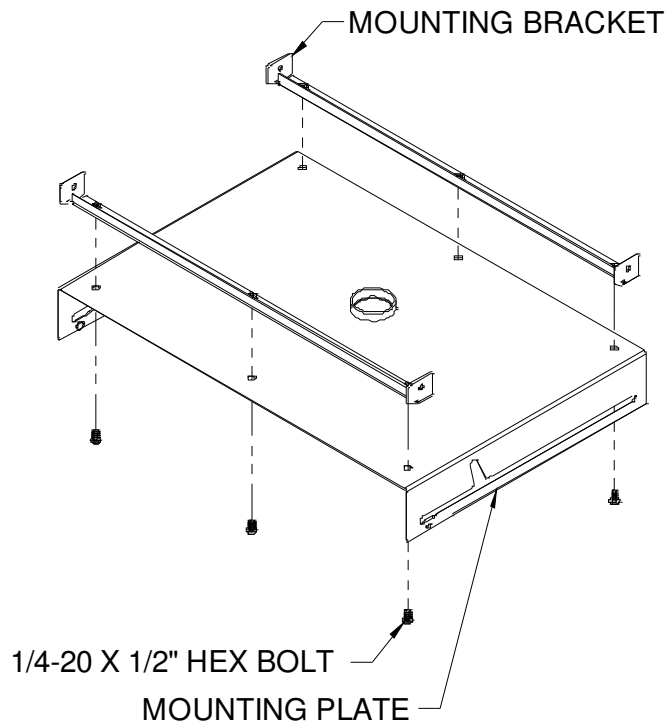

Figure 6
- Position Mounting Brackets on top of Mounting Plate and orient with the notches in the Bracket towards the front of the Mounting Plate as shown in Figure 6